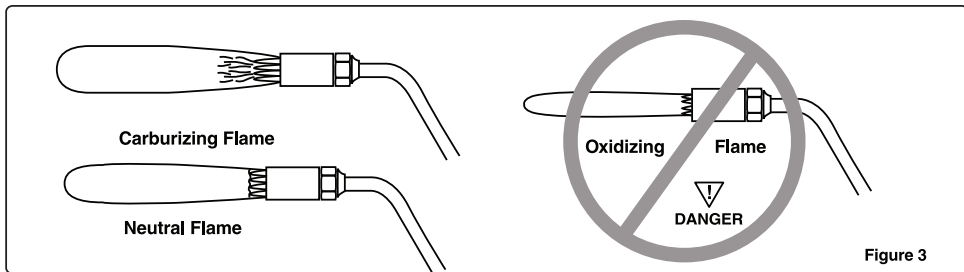

Figure 3
1. Open fuel gas/acetylene valve about 1/2 turn and quickly ignite with a spark lighter (not matches) and adjust the flame to just leave the tip end - then slightly close the fuel valve to return the flame to the tip end. The flame should not smoke excessively. If necessary, increase the fuel/acetylene regulator pressure to clear the smoke. Open the oxygen valve and adjust the flow until the white feathers disappear into a well adjusted and defined bullet-nosed inner cones (neutral flame - **See figure 3 below**).
2. Correct full gas flows and pressure must be obtained to the tip to avoid backfiring (loud popping) or flashback (squealing and burning) inside the tip (**See Figure 3 below for correct multi-flames**) - this can be caused by plugged hoses or seat damage. To stop the inside burning **IMMEDIATELY TURN OFF THE OXYGEN VALVE FIRST**, then the fuel gas valve. (The flame cannot burn inside the torch or tip without oxygen). Check tip and pressure before relighting. Allow the torch and tip to cool down.